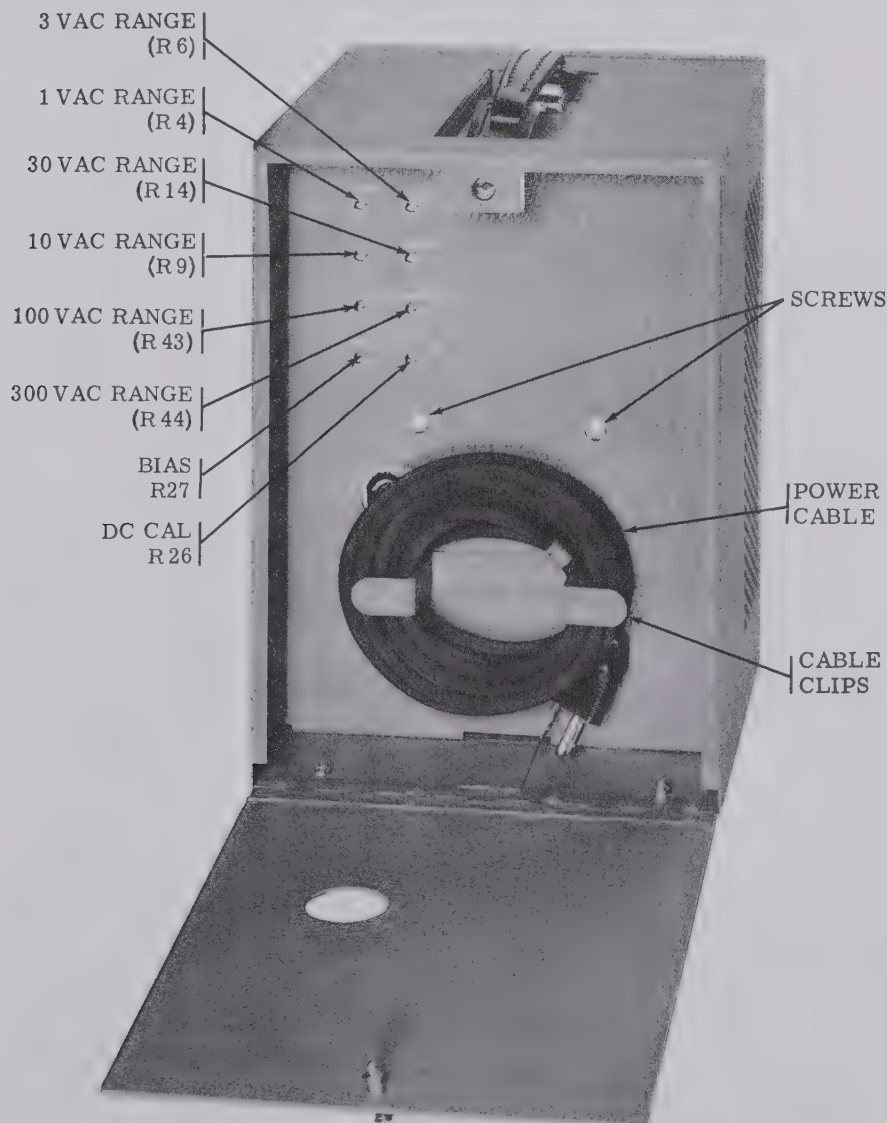
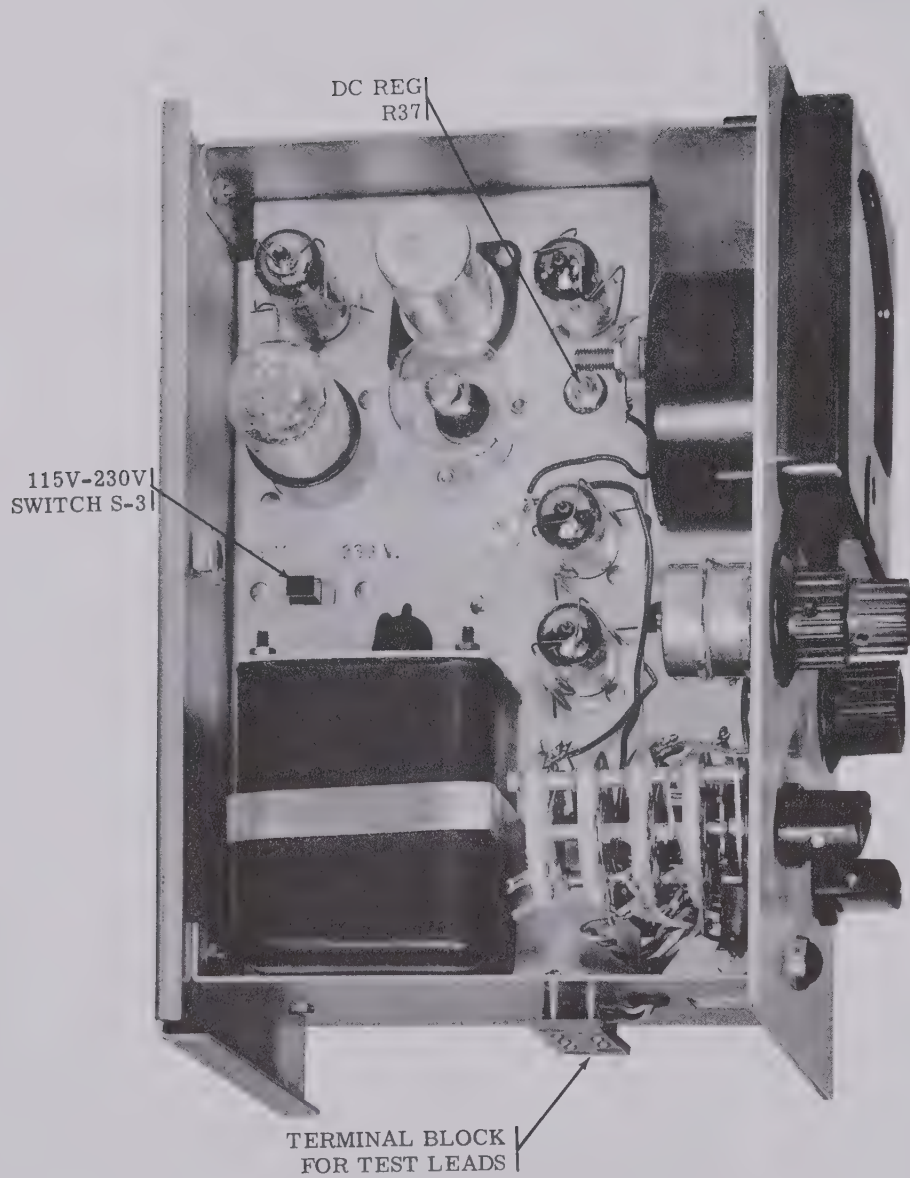

Figure 1-4. Rear Panel Open - Showing Adjustments
Figure 1-5. Left Side of Chassis
b. Operating bias of the bridge is adjusted by the internal 50K ohm BIAS control R27 (Figure 1-4). Proper bias is obtained when the grid currents in the 6AU6 tubes are at a minimum, as indicated by the absence of shift of the meter pointer from the zero position when the Range switch is switched through its DC voltage positions. Momentary surges should be disregarded.
a. The degree of attenuation is determined by the position of the Range switch. The attenuation is such that the voltage applied to the bridge circuit is the same for full scale deflection on each range. Calibration of the entire DC measuring circuit is accomplished by the internal calibration potentiometer DC CAL R26 (Figures 1-4 and 3-2).
b. Each range of the AC Voltmeter is individually calibrated by a separate potentiometer. These potentiometers assure accurate calibration in all AC ranges. The reference designation of the calibration potentiometers and their corresponding meter ranges are as follows; 1v range-R4, 3v range-R6, 10v range-R9, 30v range-R14, 100v range-R43, and the 300v range-R44, (See Figure 1-4).
a. The power transformer of the 1600B has a dual primary which can be connected in parallel for 115 volt operation or in series for 230 volt operation. 115 or 230 volt operation is selected by setting switch S-3 (Figures 1-5, 3-2) for the proper operation voltage. Regulation of the entire B supply is accomplished by a shunt type pentode regulator tube V5.
a. Disconnect plate assembly at bottom of case and remove two screws at rear of case (Figure 1-4). The panel and chassis may now be completely removed
2-5. The voltmeter is designed for use with either a 115 volt or 230 volt AC power source. The instrument is shipped for use with a 115 volt supply. Before placing the instrument into operation determine the power source available and ascertain that the voltage change switch (inside chassis - Figure 1-5) is in the proper operating position. Access to the voltage change switch is made possible by removing the four screws from the plate assembly for test leads (Figure 1-1), two screws from the rear of the case (Figure 1-4) and pulling the chassis out of the case. After establishing that the voltage change switch is in proper position (115 or 230V) restore the unit to operating condition. Connect to power source. Turn the Function switch from OFF to any other position. (Pilot light should glow) Allow the instrument to warm up for at least five minutes before making circuit tests.